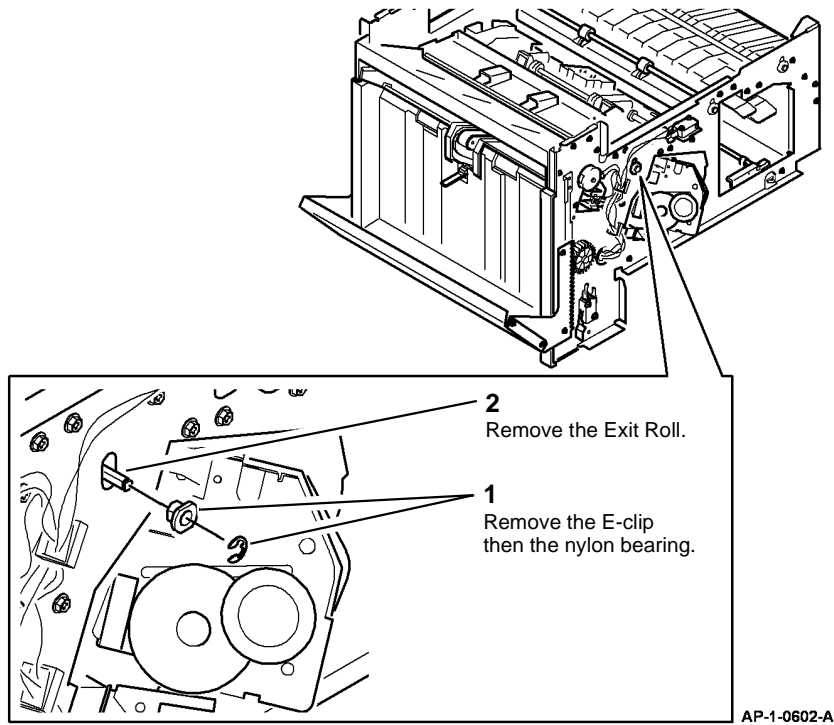

Figure 2 Removing the Exit Roll
10. Remove the Exit Roll (Figure 2).